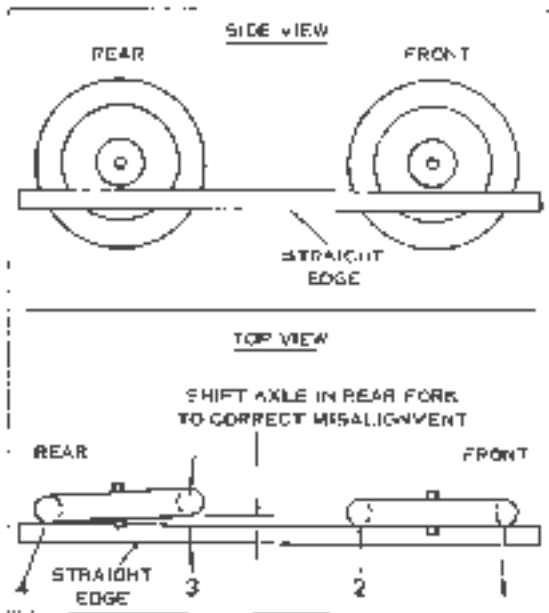

Figure 2-28 Wheel Alignment Diagram
Front and rear wheels should be in perfect alignment. This can be checked on the motorcycle with a straight wooden board or length of string by placing against rear tire as well as far up toward axle as possible. Straight edge should be parallel to tires (see Figure 2-28). On 1970 and later FL models, 5/16 x 18 size front tire should be offset 3/4" to the right of rear tire. Adjust rear wheel in axle clamps as necessary to correct misalignment.
2. Insert a large screwdriver through hole in end of grip (Figure 2-28) and loosen handlebar end screw (1). Handlebar end screw and spring (2) will remain inside grip. Remove grip sleeve assembly (3), exposing working parts.